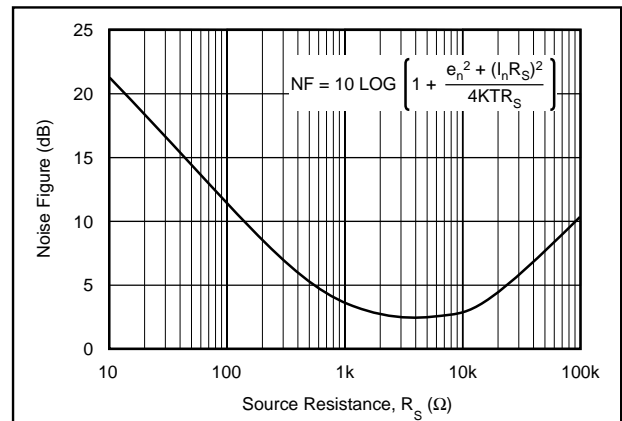

FIGURE 4. Noise Figure vs Source Resistance.
The OPA651 voltage noise spectral density is specified in the Typical Performance Curves. For RF applications, however, Noise Figure (NF) is often the preferred noise specification since it allows system noise performance to be more easily calculated. The OPA651's Noise Figure vs Source Resistance is shown in Figure 4.